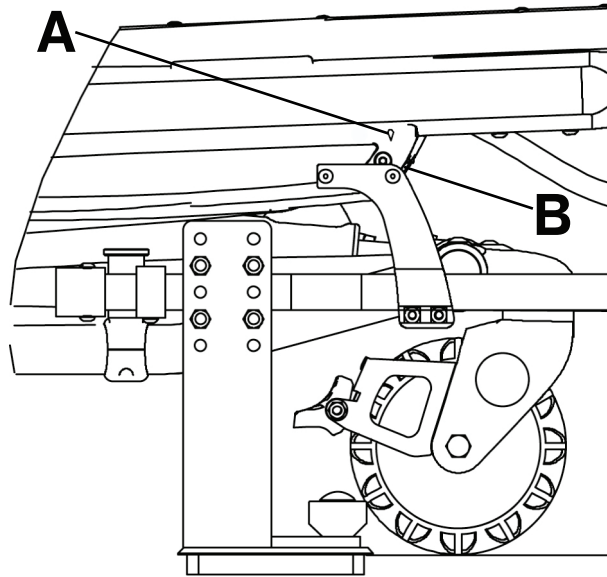

Figure 6 – Adjust shut-off bracket
4. Adjust the shut-off bracket along the rail clamp until the diamond (A) on the sensor housing is lined up with the pop rivet head (B) (Figure 6).
Note - Align the diamond (A) on the sensor housing cover with the pop rivet head (B) on the in-ambulance shut-off (Figure 6).